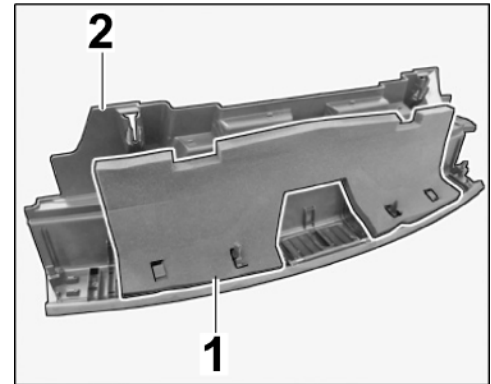

Figure 26
4.1.1 Remove insulating material from lock carrier cover (⇒ *Figure 26*).